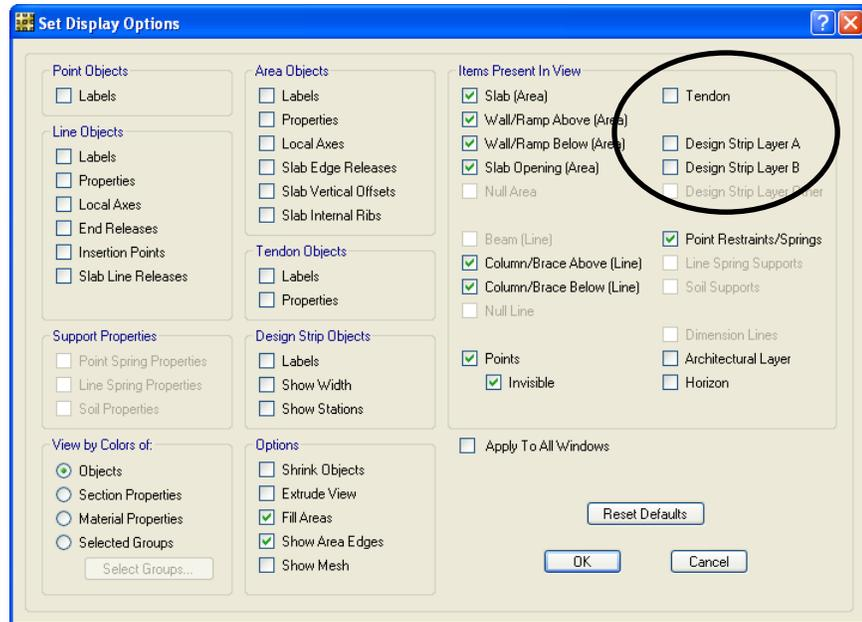

Figure 83 Set Display Options form
- A. Click the **View menu** > **Set Display Options** command. When the Set Display Options form displays, uncheck the *Tendon*, *Design Strip Layer A* and *Design Strip Layer B* check boxes in the Items Present in View area as shown in Figure 83. This action will turn off the display of the tendons and design strips.